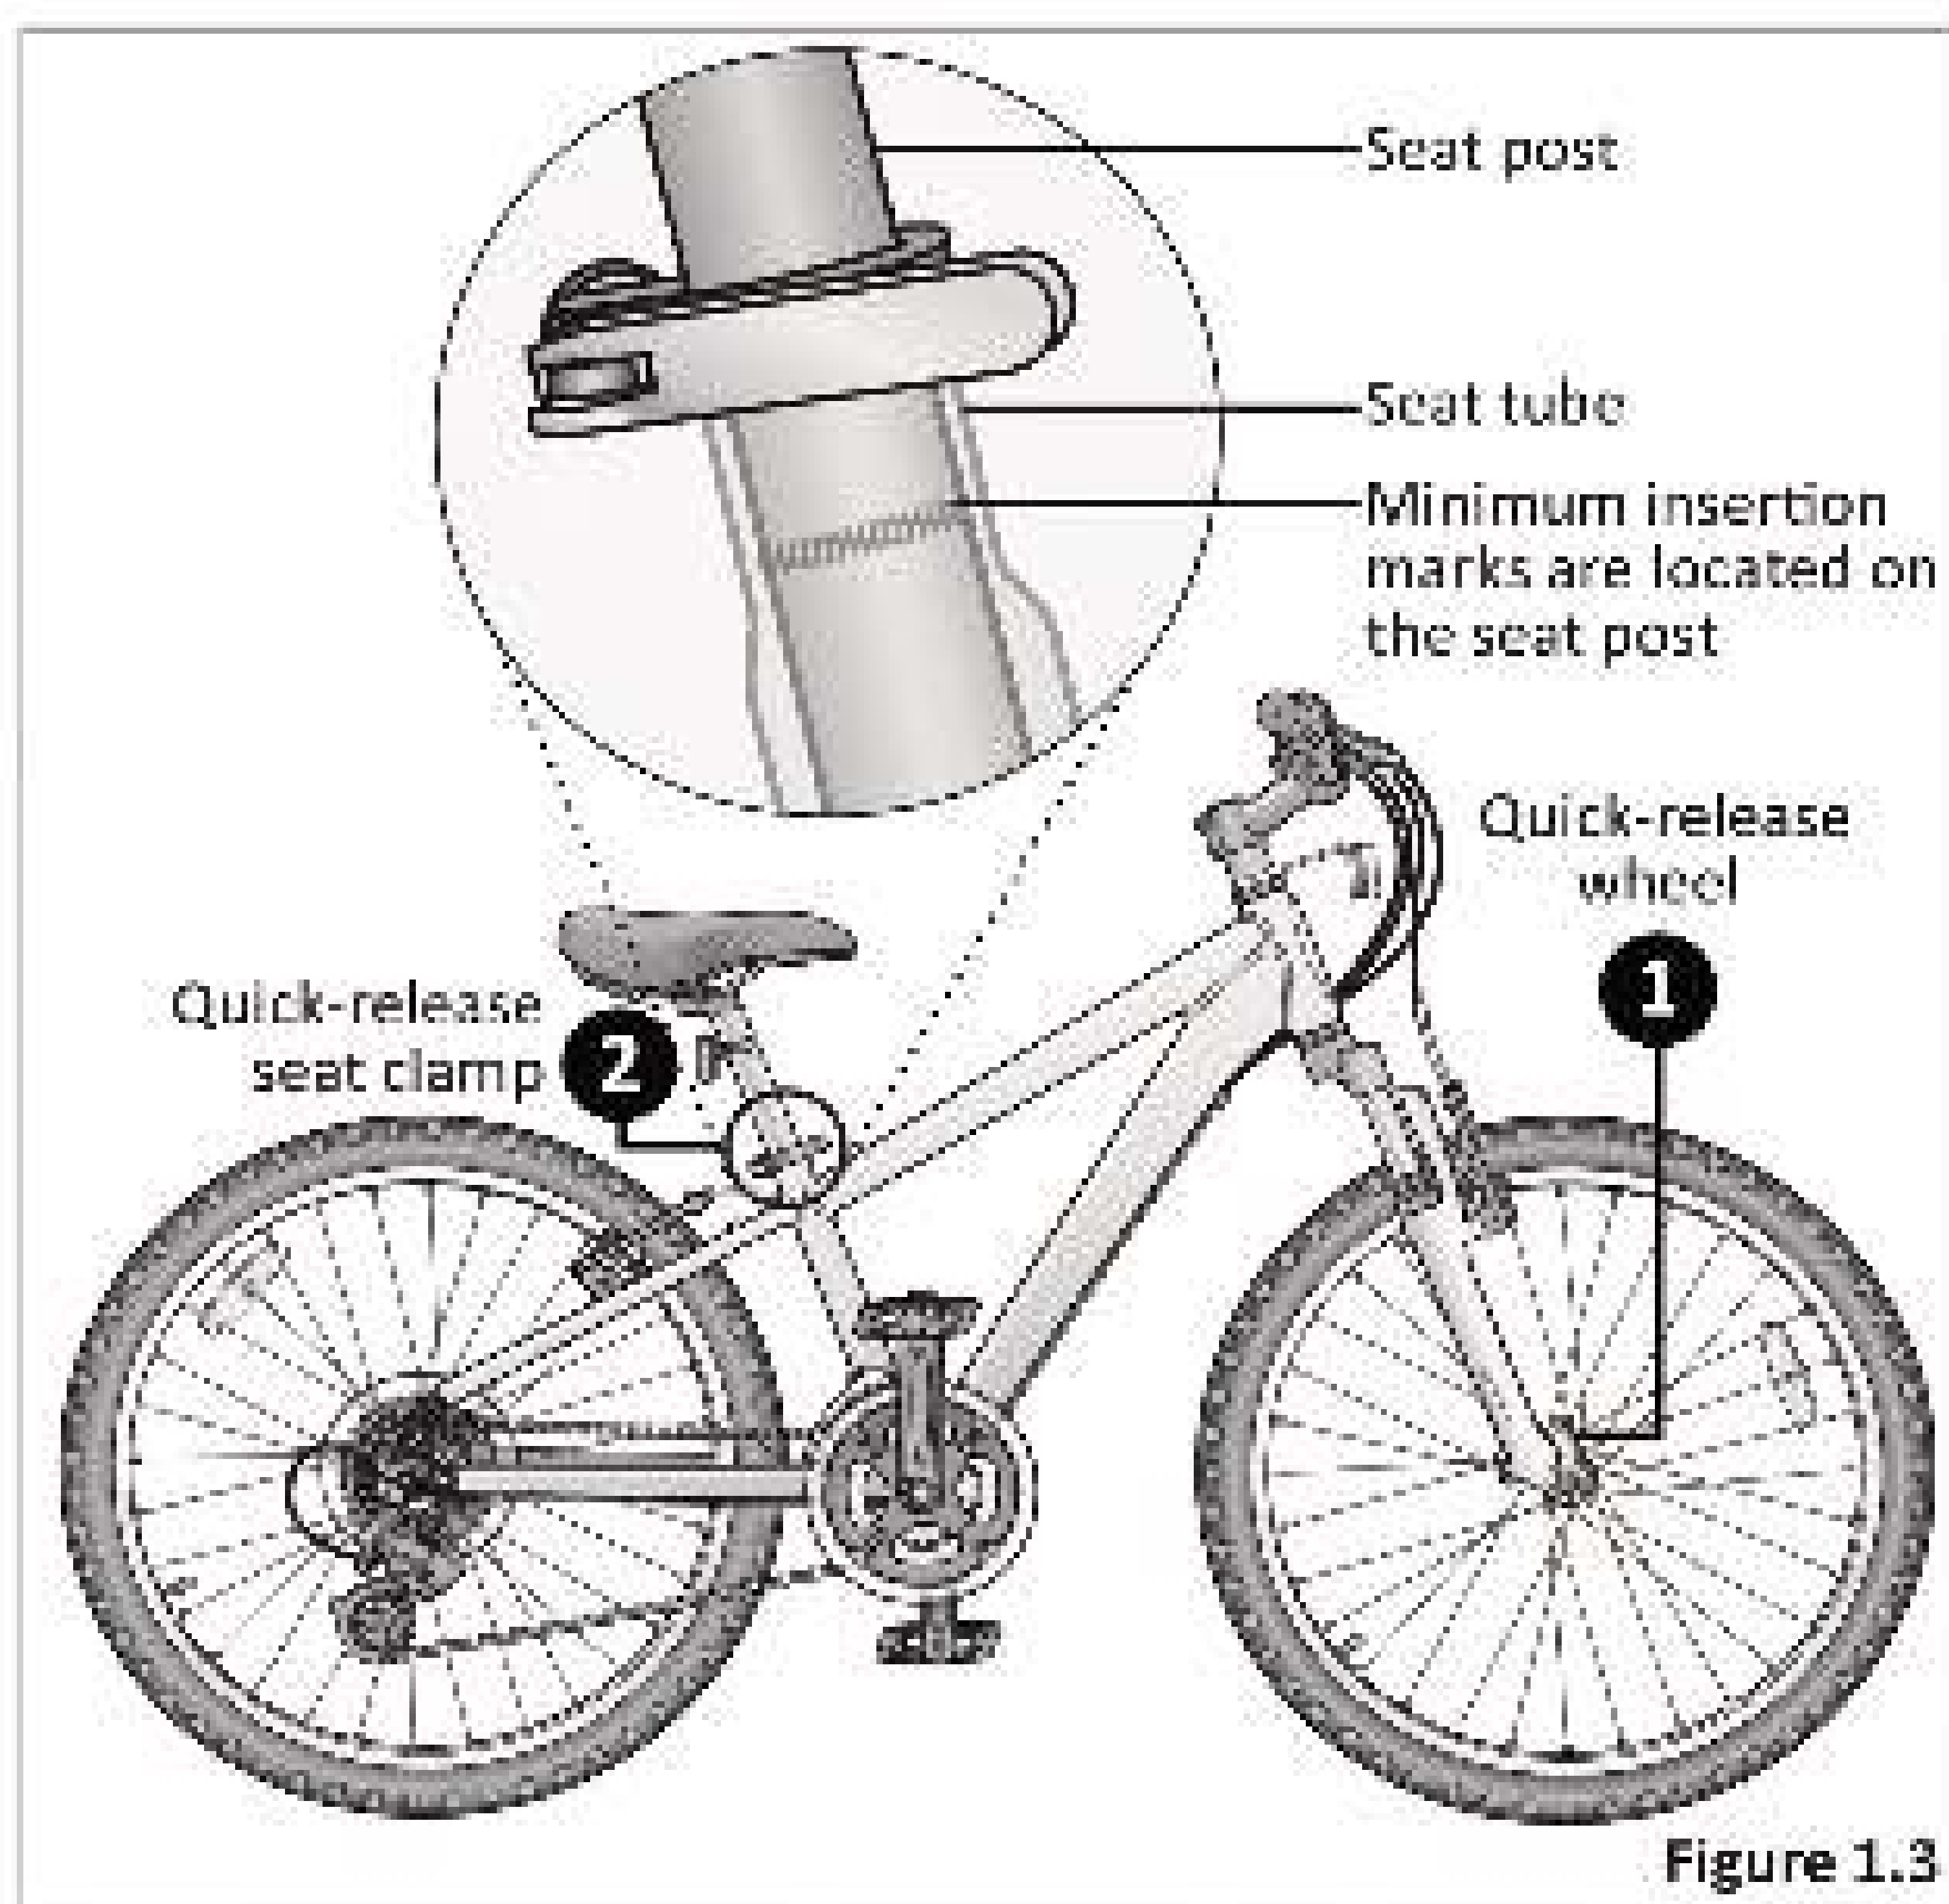

Figure 1.3
- 1 Some bicycles will come equipped with quick-release levers for the front wheel. The wheels must be securely locked. Ensure the wheel quick-release lever is firmly locked in place. **Figure 1.3**